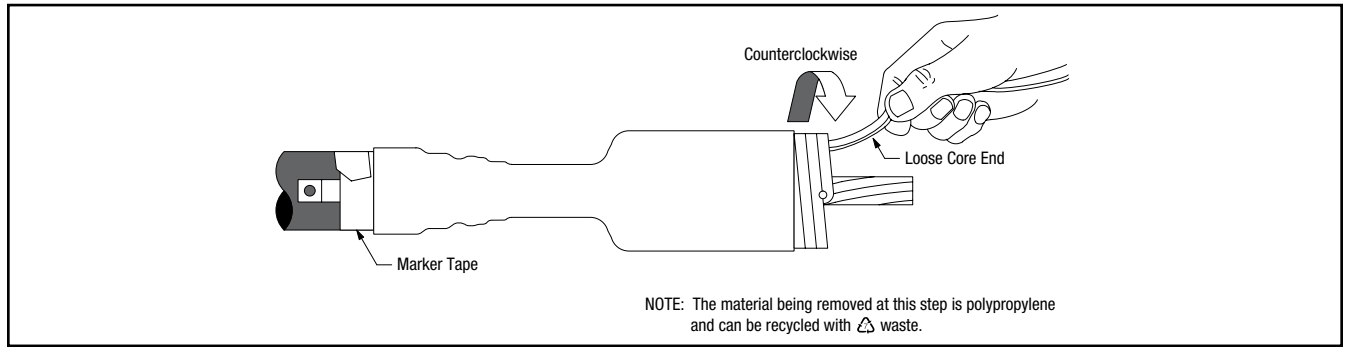

Figure 13
- 10.3 Slide termination onto cable (loose core end extending out toward cable lug end), aligning base with previously applied marker tape (*Figure 13*).
- 10.4 Remove the core. Pull while unwinding, counter-clockwise, starting with the loose end (*Figure 13*). Make sure the termination body (not the core) is butted up to the edge of the vinyl tape marker previously applied (*Figure 13*).